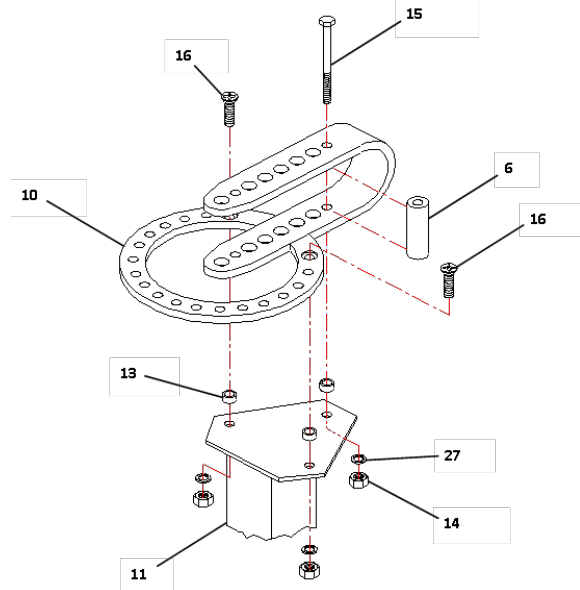

Figure 5-3
2. Place the three Mounting Spacers (#13) over the three holes on the top of the stand as shown in fig.5-3.